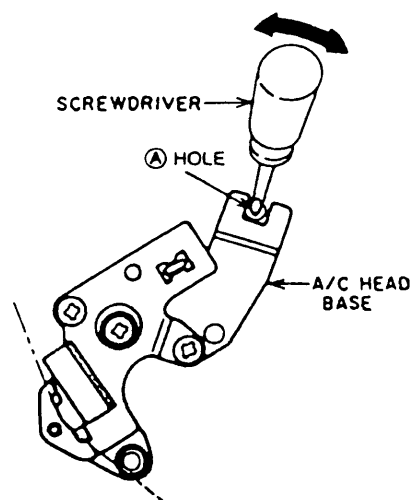

Fig. 4-17
- 5) Insert a sharp flat head (—) screwdriver into the A/C HEAD BASE and ① hole as shown in Fig.4-17.
- 6) Move the A/C HEAD BASE by moving a screwdriver in the direction of the arrow as shown in Fig.4-17 to obtain the maximum RF output, then tighten the © screw.